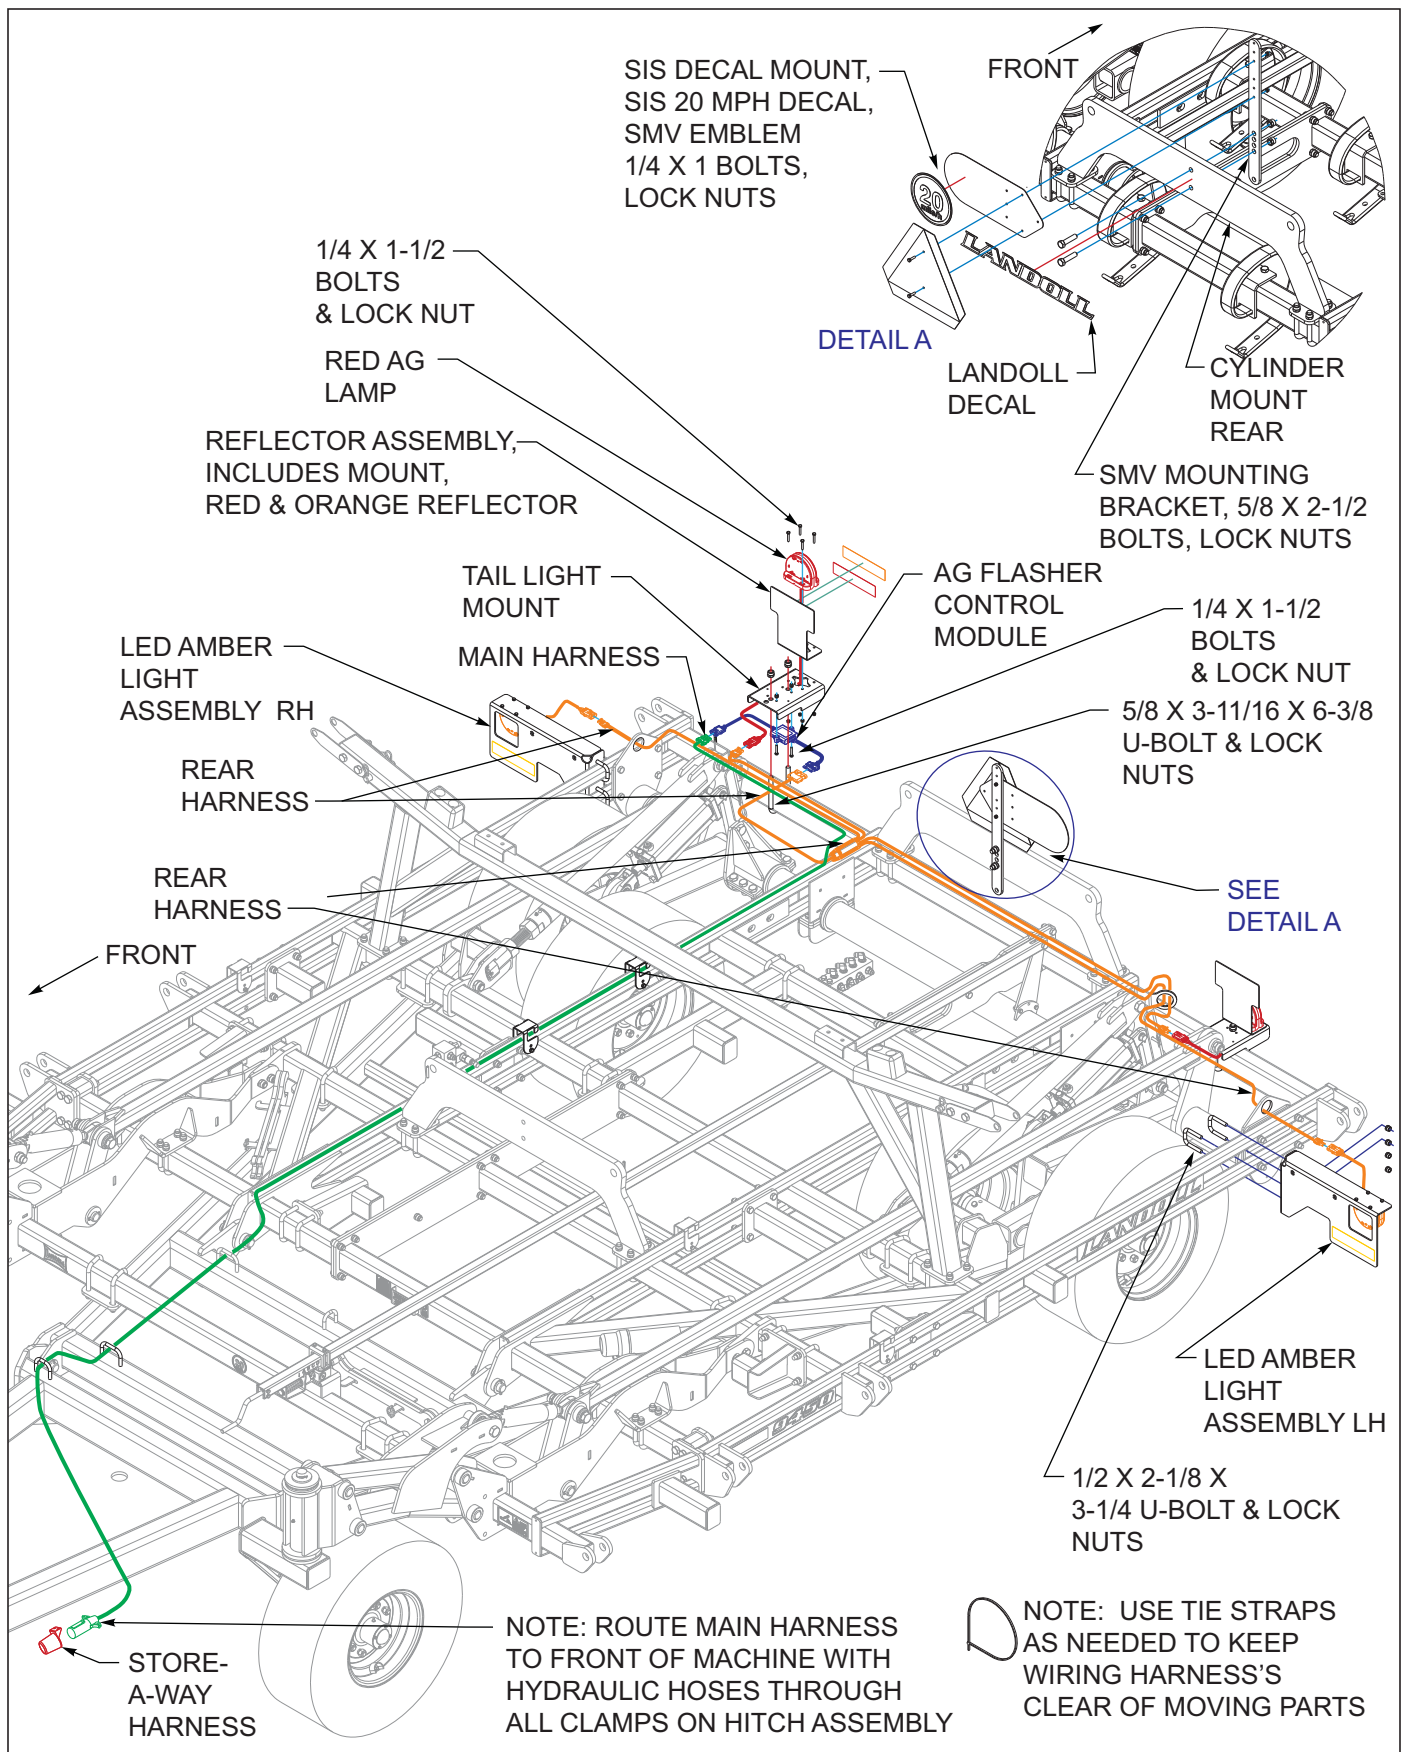
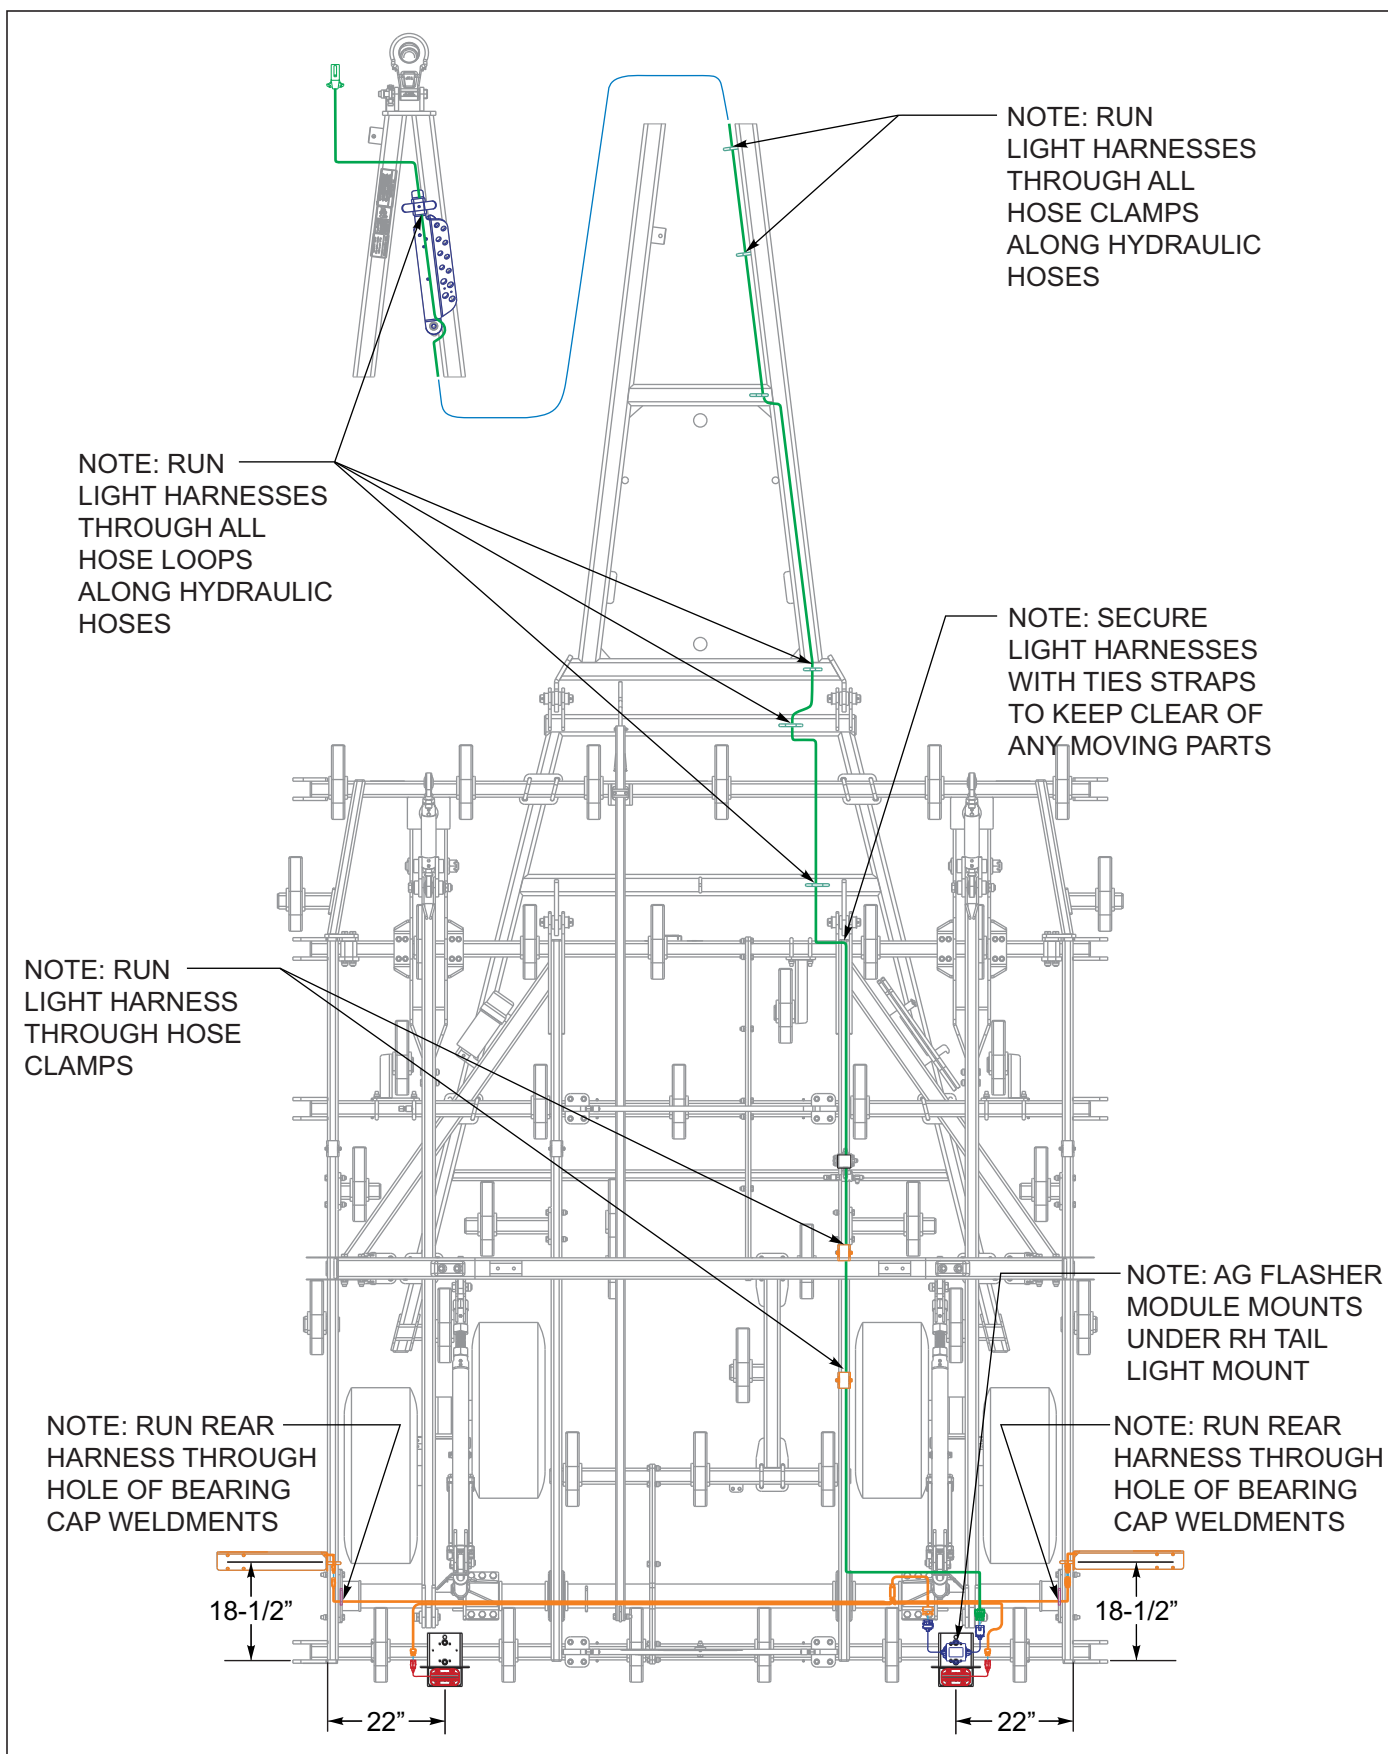

Figure 3-26: LED Light Installation
Figure 3-27: LED Light Layout
1. Attach LH and RH light bracket assemblies to center frame using 1/2 x 2-1/8 x 3-1/4 u-bolt and lock nuts **See Figures 3-26** and **See Figures 3-27** for light bracket placement location.
8. Insure that the harnesses are clear of any moving parts and secure the harnesses with tie straps provided. **See Figures 3-27** for light harness routing.
11. Attach the smv mounting bracket to front side cylinder mount rear with 5/8 x 2-1/2 bolts and 5/8 lock nuts **See Figures 3-26** Detail A.